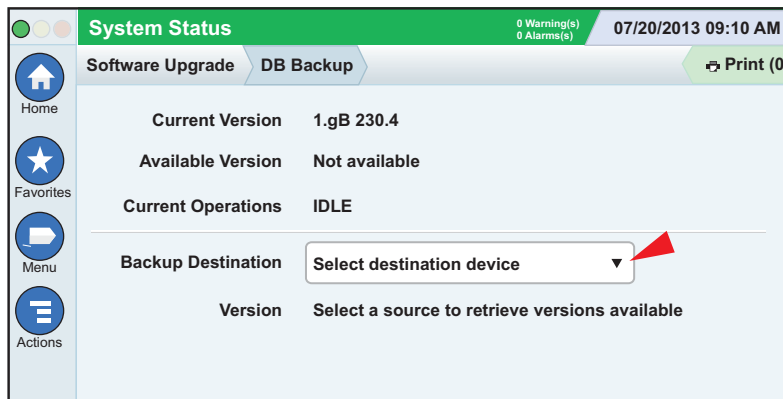

Figure 2. DB Backup Screen
2. From the Home Screen touch **Menu > Software Upgrade > DB Backup** to view the Database Backup Screen (see Figure 2). Touch the down arrow in the Backup Destination field to select the Backup thumb drive inserted in Step 1, then follow the on-screen instructions to backup TLS-450PLUS console data.